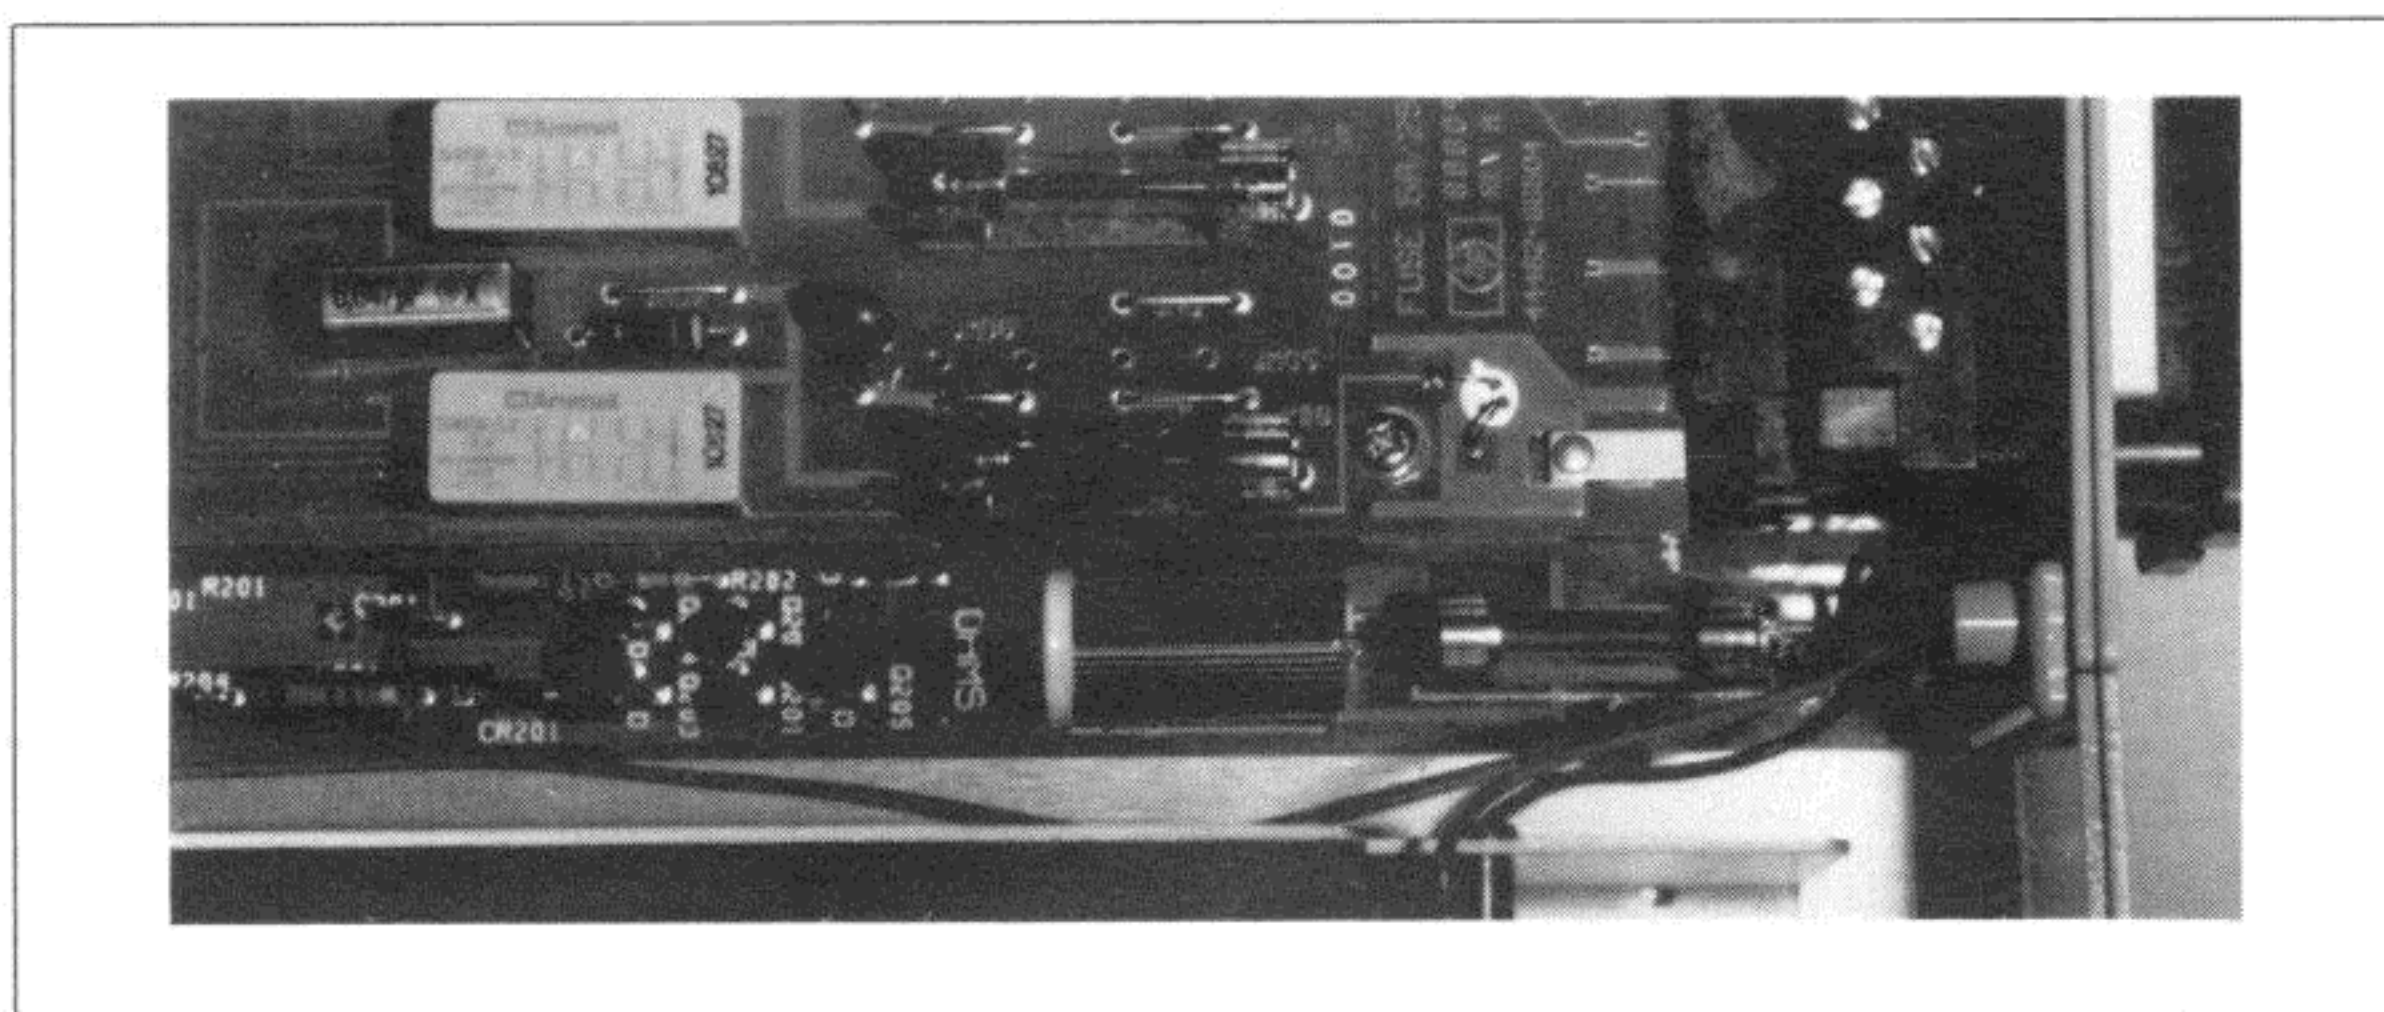

Figure 4-2-2. Remove Main Battery Fuse
- d. Refer to Figure 4-2-2 and locate the battery fuse toward the right rear of the instrument. Remove it from its socket. Instead of removing the fuse, you can unplug the red wire from the battery. If this is done, make sure the wire is placed out of the way and away from the battery.